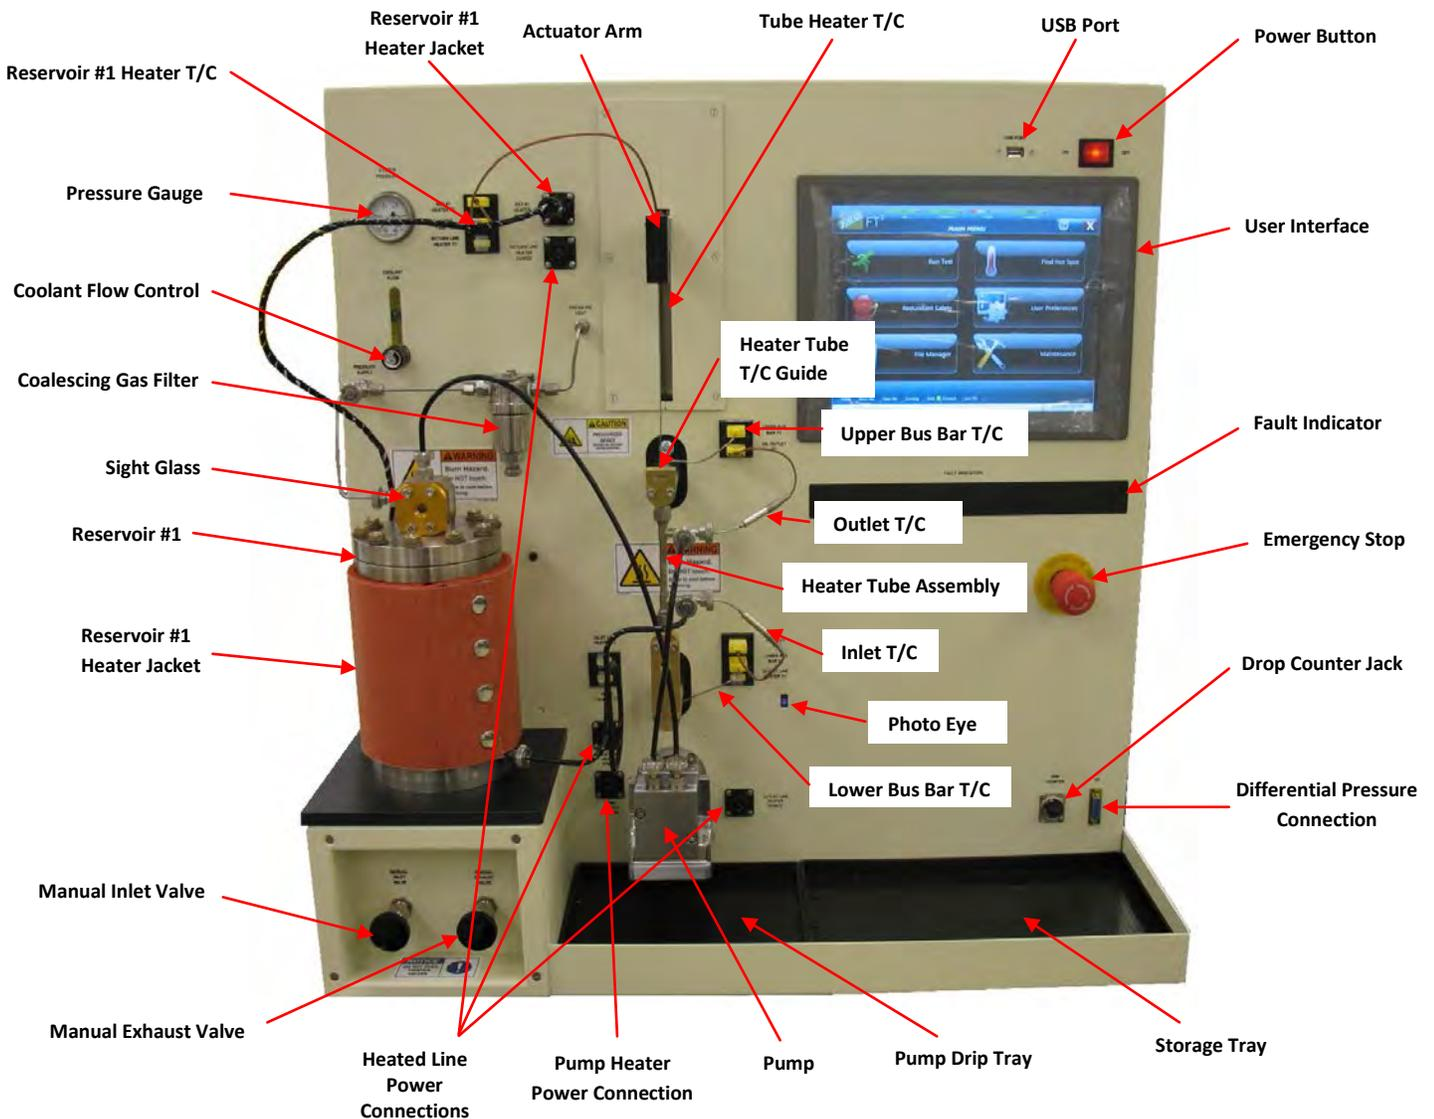

Figure 1-1 – Falex 450 (FT²) Test Machine
Figure 1-1 shows the location of various components and connections (shown with the bolted flange reservoir). The safety cover system is not shown so that other components are visible. Refer to figure 1-2 to see the safety cover system.
Note: Refer to figure 1-1 for device locations. For installation of ordered options, refer to the associated addendum at the end of this manual.
12. Connect all tubing lines to their respective locations. Make sure all connections are hand tight. Standard 'pull' tubing lines are shipped with the machine. Refer to figure 1-1 for their placement.